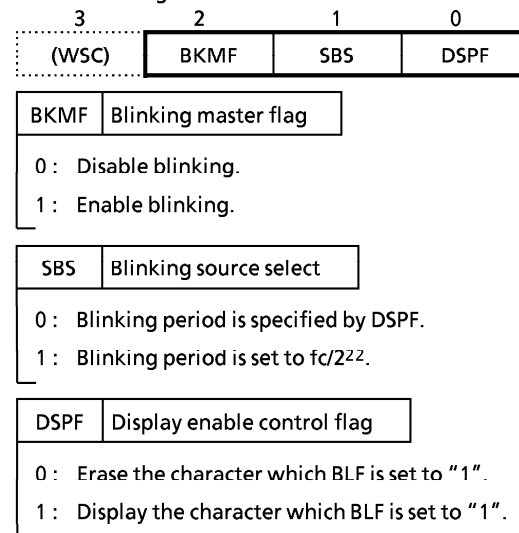
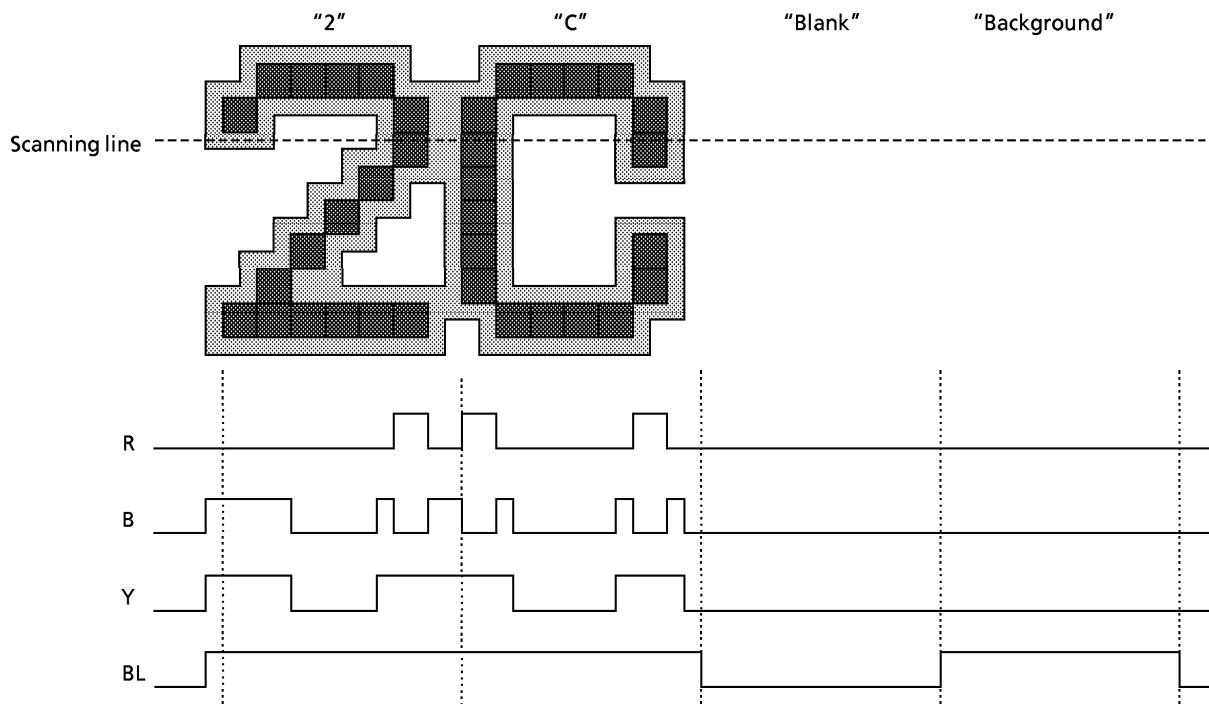

Figure 3-14. Control of Blinking Function
Figure 3-16. Example of OSD Display and Its Wave Form (2)
Figure 3-14 shows display example (1). The conditions for this example are as follows:
- ① Display data: 2, C, blank data (character code 7FH), background (character code 7EH).
- ② Color data: RDT = 1, BDT = 0, GDT = 0.
- ③ Background color data: BRDT = 0, BBDT = 1, BGDT = 0.
- ④ Fringing and smoothing disabled.
- ⑤ This screen display example is controlled by the R, B and BL signals.
Figure 3-16 shows display example (2). The conditions for this example are as follows:
- ④ Fringing enabled and smoothing disabled.
- ⑤ This screen display example is controlled by the R, B and Y signals.